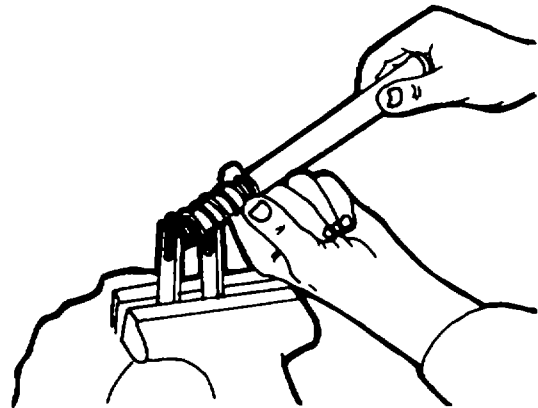

Figure 4-31. Assembling Spring onto Push Rod Tube
- n. Assemble and tension the spring on the push rod tube (figure 4-31) using spring tensioning tool.